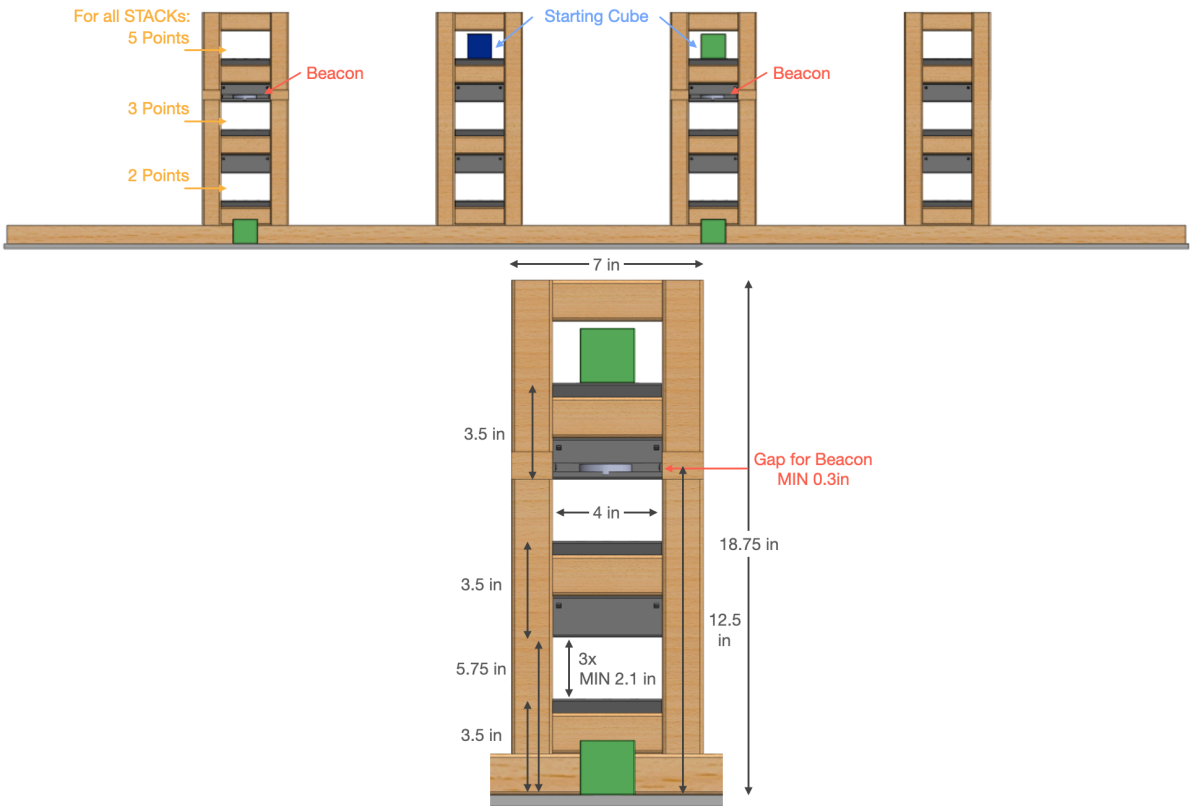

Figure 3: Front view of a STACK. All dimensions are ± 0.5 cm.
- ☐ A side view of the and STACK is shown in Figure 3.